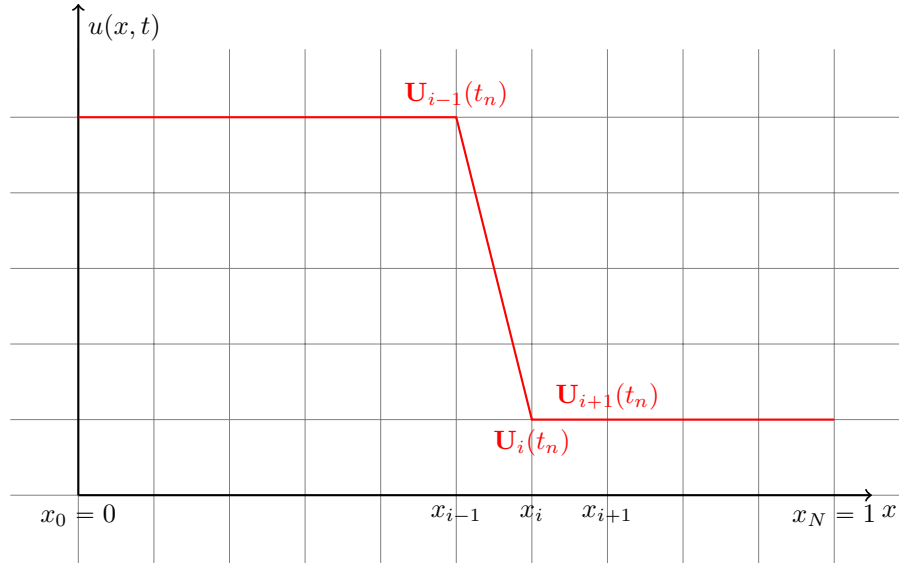

Figure 1: Discretized domain and solution for (3)
for $x \in [0, 1]$ and $t \in [0, 0.5]$, with the initial condition $u(x, 0) = 1$ and boundary condition $u(0, t) = 5$. Using the Method of Lines, (3) is spatially discretized on the grid shown in Figure 1 using FDM to obtain a system of ODEs of the form